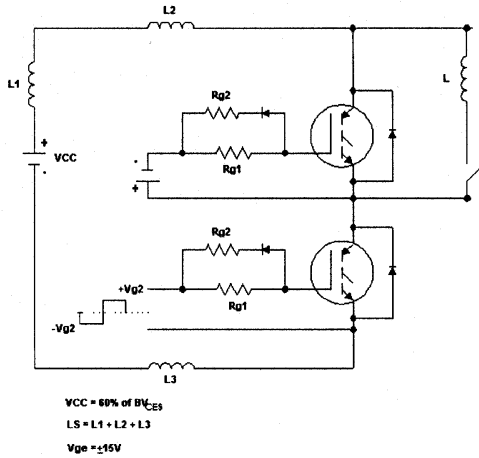

Fig. 17 - Test Circuit for Measurement of I_{LM} , E_{on} , $E_{off}(\text{diode})$, t_{rr} , Q_{rr} , I_{rr} , $t_{d(on)}$, t_r , $t_{d(off)}$, t_f
- ① Repetitive rating; $V_{GE} = 20V$, pulse width limited by max. junction temperature.
- ② See fig. 17
- ③ For screws M5x0.8
- ④ Pulse width 80 μ s; single shot.